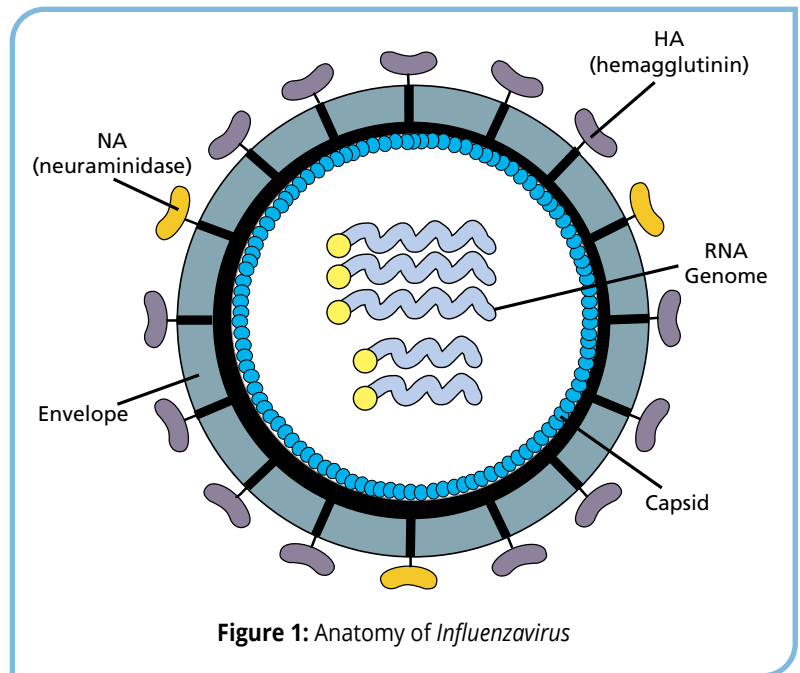

Figure 1: Anatomy of *Influenzavirus*
The yearly seasonal flu epidemic in the United States is caused by one of two species of Orthomyxovirus known as *Influenzavirus A* or *B* (Figure 1). An influenza particle, or virion, is roughly spherical in shape, measuring about 80-120 nanometers in diameter. A special layer of proteins, called the capsid, surrounds and protects the eight pieces of RNA that make up the viral genome. Surface proteins called hemagglutinin (HA) and neuraminidase (NA) protrude from the viral envelope (a layer of proteins and lipids that surrounds the capsid). These proteins allow the virus to target and invade cells during an infection.